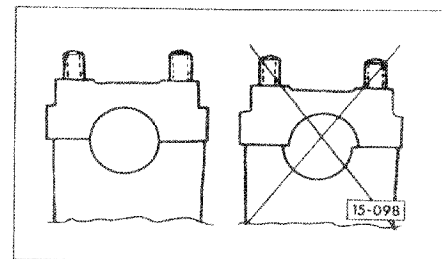

Fig. 4-11. Cross-section of camshaft bearing, showing cap installed correctly (left) and incorrectly (right).
4. To install, place the bearing caps in position as shown in Fig. 4-11. Install the washers and nuts, gradually tightening all the nuts until the camshaft is drawn down fully and evenly into the bearing saddles. Torque all the nuts to 20 Nm (15 ft. lb.).